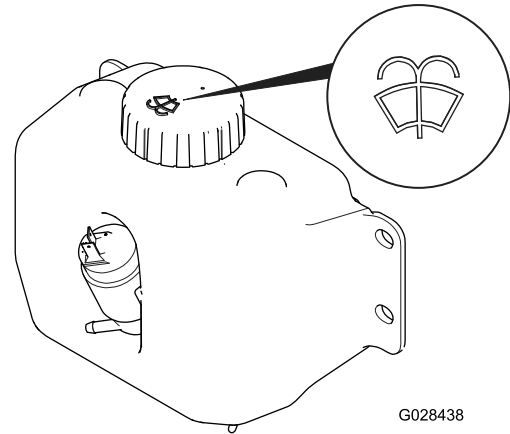

Figure 90
- Open the hood and locate the washer-fluid bottle (Figure 90).